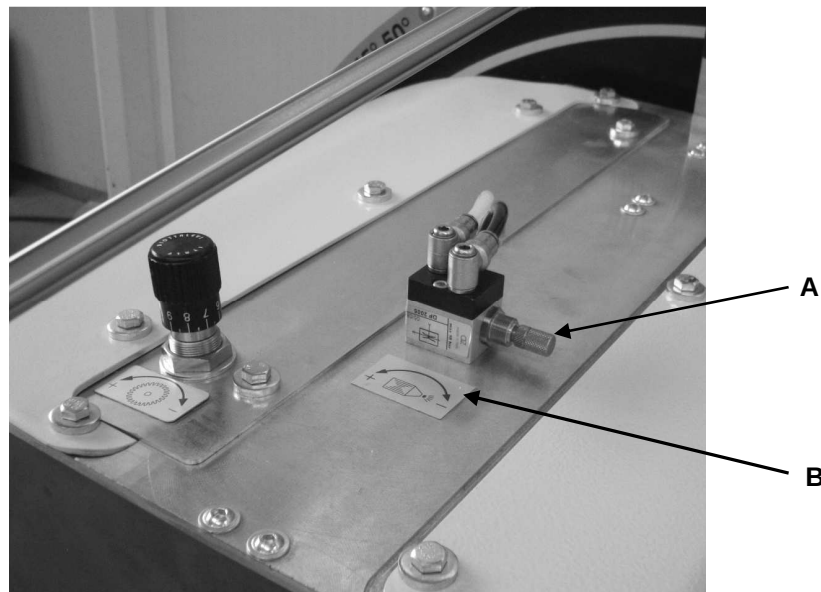

Fig. 09-03
9.3 ADJUSTING THE FLOW OF BLADE LUBRICATION (Fig. 09-03)